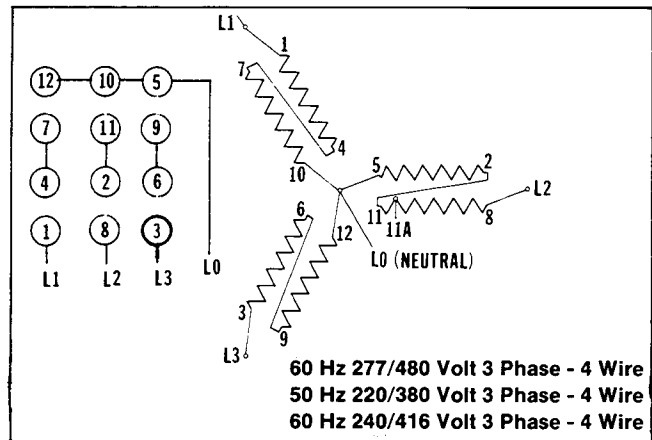

Figure 6
**CHANGE:** Reconnect generator leads as shown in Figure 6. Leave current transformers in their present position. Leads 1, 3 and 8 should go through CT-1, CT-3 and CT-2 respectively. Small leads V0, V1, V2, V3, 8, 11, 8B and 10B remain connected as shown in Figure 7.
**CHANGE:** Reconnect generator leads according to Figure 6. Install new current transformers and reconnect small leads V0, V1, V2, V3, 8, 11, 8B and 10B as shown in Figure 7. Connect lead from upper scale indicating lamp to hourmeter in controller upper cabinet as shown in Figure 11.
**CHANGE:** Reconnect generator leads as shown in Figure 6. Install current transformers, replace safeguard breaker if required, and reconnect small leads V0, V1, V2, V3, 8, 11, 8B and 10B as shown in Figure 7. Rewire selector switch in Decision Maker upper cabinet as shown in Figure 11. Replace ammeter if required.